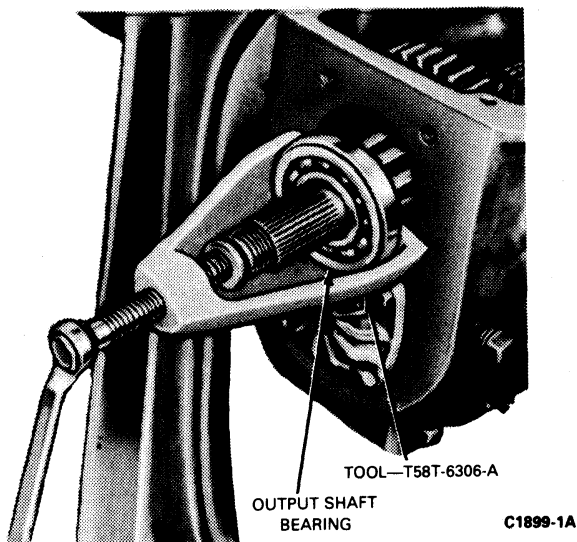

FIG. 6 Removing Output Shaft Bearing
7. Remove the output shaft bearing snap ring and 1 bearing (Fig. 6).